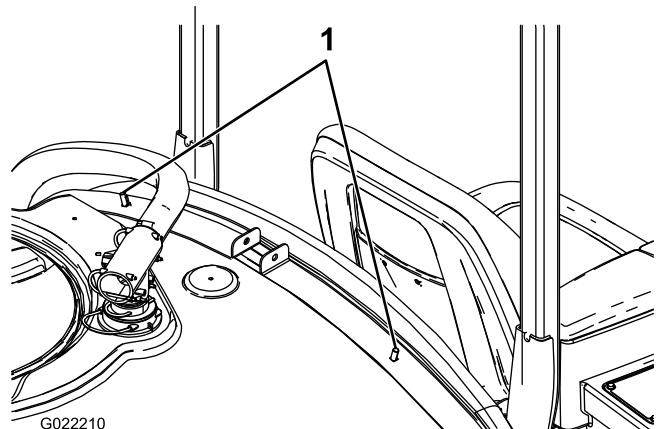

Figure 2
2. Install 2 carriage bolts to the upper inboard holes on the front tank straps (Figure 2).